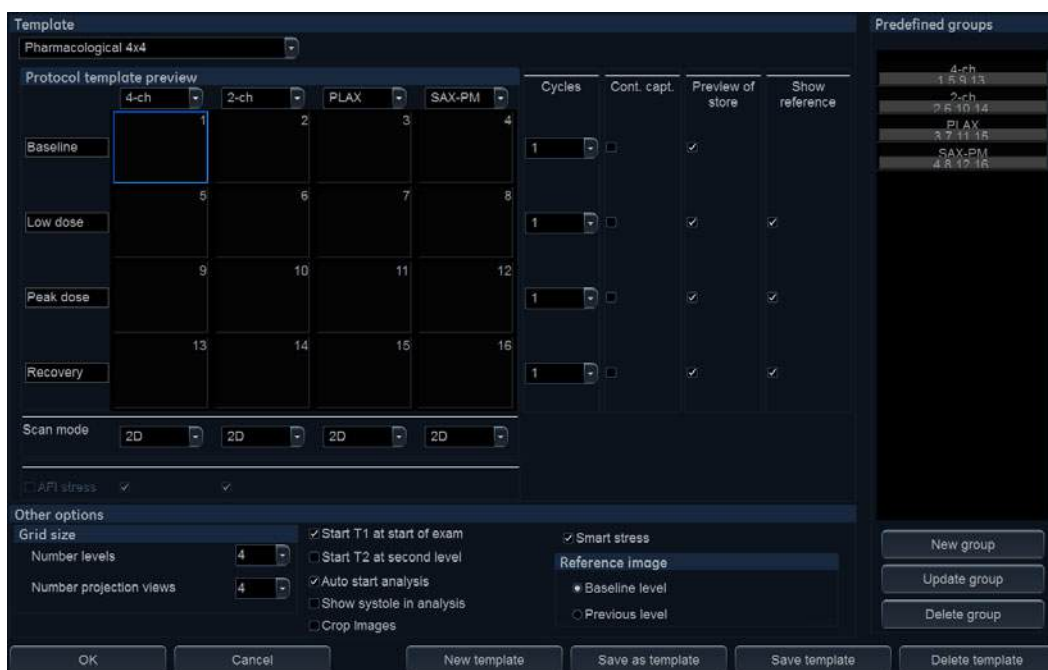

Figure 7-12. The Template editor screen
The *Template editor* screen is displayed (see Figure 7-12).
1. Enter the number of levels and projections in the *Grid size* field (see Figure 7-12).
1. Check the box(es) to display timer(s) as specified (see Figure 7-12).